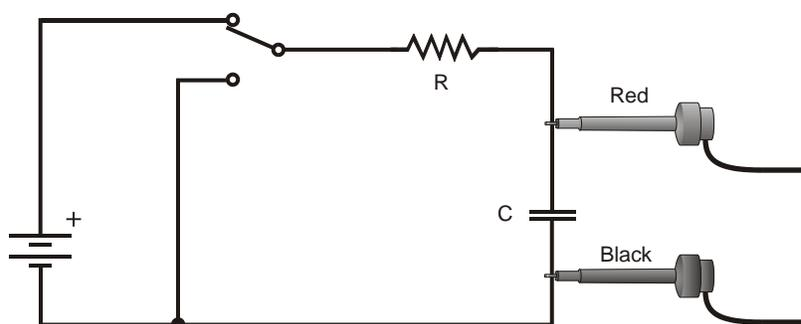

Figure 1
1. Connect the circuit as shown in Figure 1 above with the 10- μ F capacitor and the 47-k Ω resistor. Record the values of your resistor and capacitor in your Data Table, as well as any tolerance values marked on them.
- a. Charge the capacitor for 10 seconds with the switch in the position as illustrated in Figure 1.